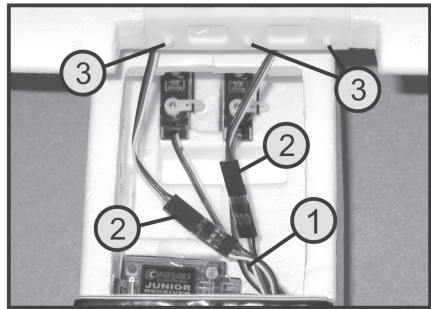

Figure 8
- Insert the three plastics pegs of the wing support (see figure 8, pos. 3) exactly into the corresponding recesses in the top edge of the cockpit (1).